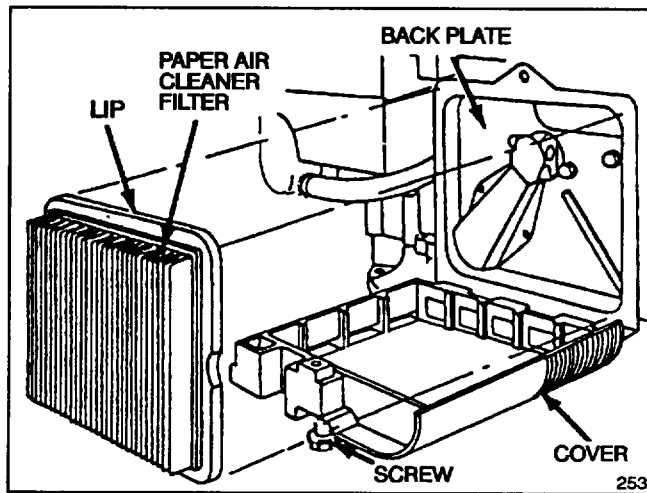

Figure 12
3. Remove paper air cleaner filter (Fig. 12) and discard.
4. Insert new paper air cleaner filter cartridge so lip touches back plate as shown in Figure 12.